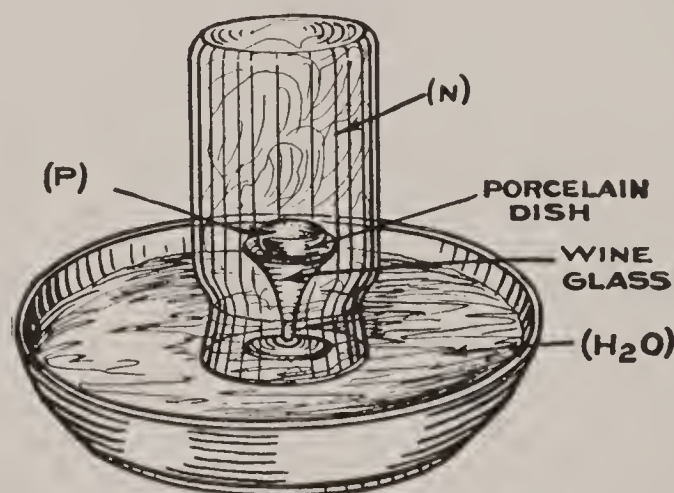

FIG. 51.—How to Make Nitrogen for Experimental Purposes.
phorus (P) in a small porcelain dish and set it on top of a wine glass; now stand this in a soup-plate filled with water (H_2O) and ignite the phosphorus (P) with the end of a wire which you have heated a bright red in the flame of your lamp or burner. Having done this, set a glass jar—a pint fruit-jar will do—over the burning phosphorus (P), as shown in Fig. 51. When the phosphorus (P) has burned out, the jar will then contain only nitrogen (N).